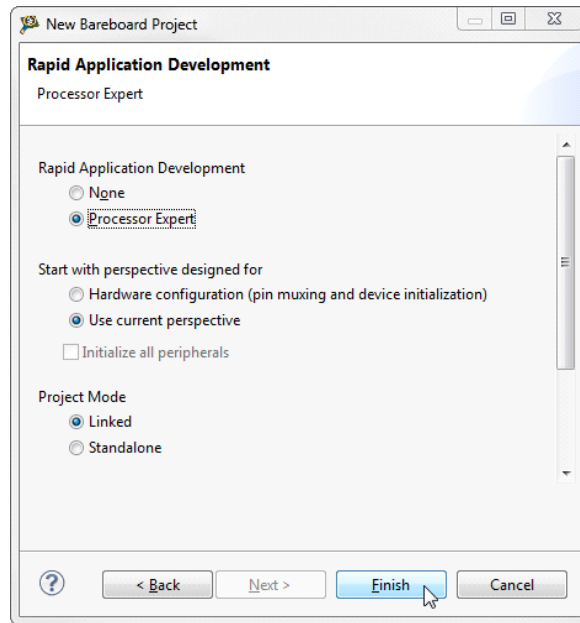

Figure 11. Select the Processor Expert option
3. Select the Processor Expert option, and then click Finish (see Figure 11).